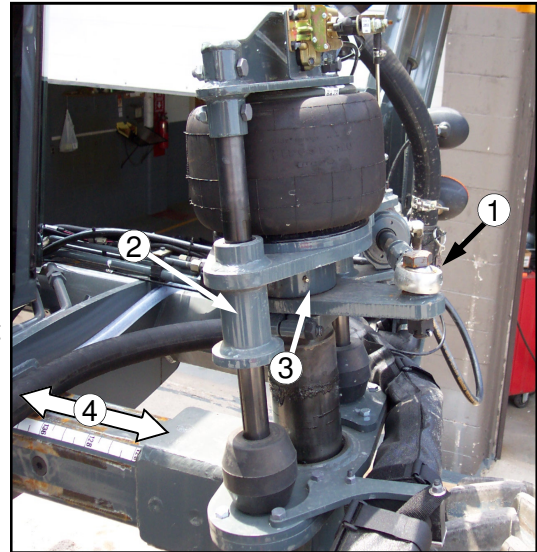

FIG. 7.91-1
LEGS AND STEERING– The front legs have a grease zerk in the tie rod ball (figure 7.91-1, item 1) that needs greased every 50 hours or weekly.
Both the front and rear legs have two grease zerks, one in each of the tower bearings (figure 7.91-1, item 2) that must be greased every 50 hours or as necessary. There is a zerk in the collar (figure 7.91-1, item 3) that also needs greased every 50 hours or as necessary.